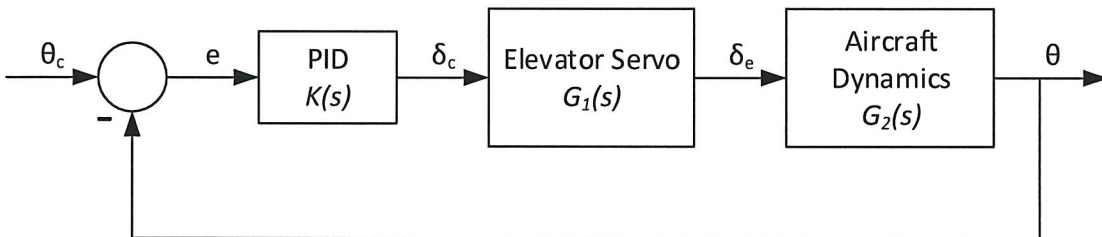

Figure Q3 Simplified block diagram for pitch angle control system.
- Q3** A simplified pitch control system is shown in **Figure Q3** with transfer functions for each individual component in the control system are given as: